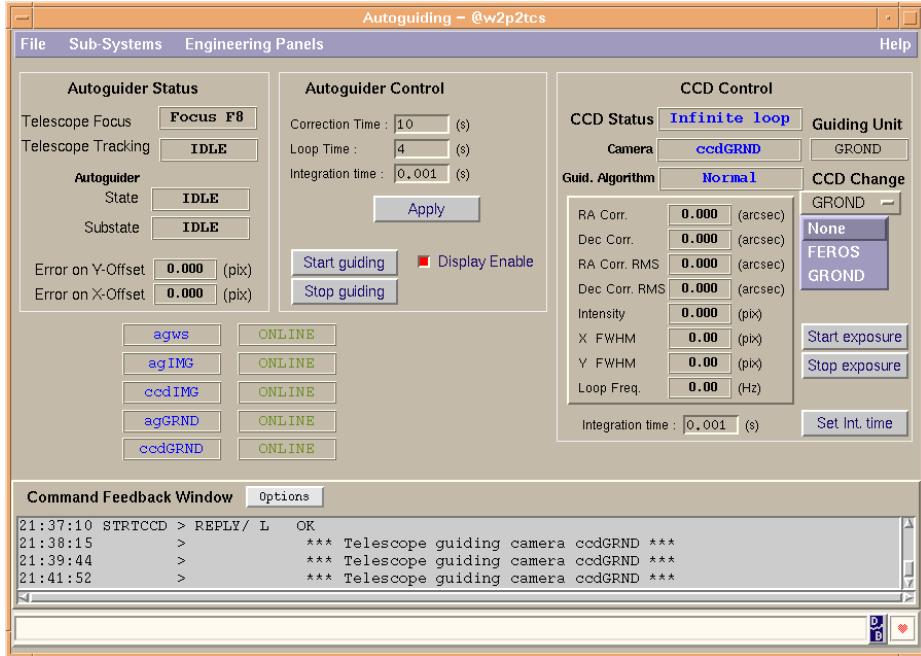

Figure 2.5: Switching between **GROND** and **FEROS** guide camera.
- a. select GROND below CCD change (see Fig. 2.5)
- a. select FEROS below CCD change (see Fig. 2.5)
Check that the **GROND** and **FEROS** guide cameras work by switching between them on the **AG** window (see Fig. 2.5). The switching should set the camera in CCD status **Infinite loop**. It may be necessary to click on **Start exposure** after switching to obtain this status. If status is **Fail**, the camera must be restarted (see Sect. 10.2).